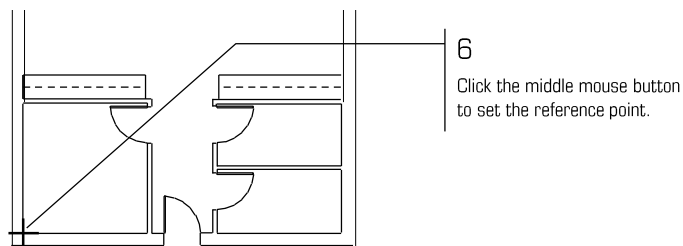

Figure 3.43: Setting a reference point
6. Click the middle mouse button near the lower left corner of the interior wall shown in Figure 3.43. This will be your reference point. You are prompted to *Select one jamb of window*.